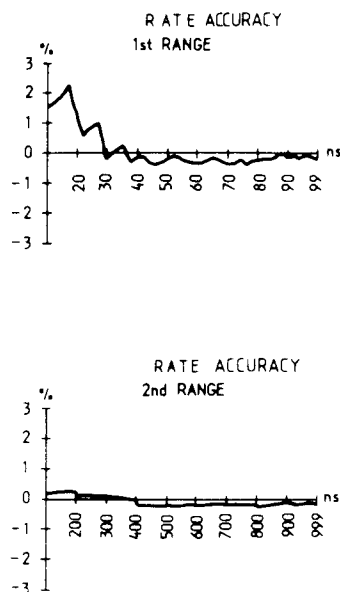

Figure 5-6
10. Repeat steps 8 and 9 until periods are within tolerance (see Figure 5-6).